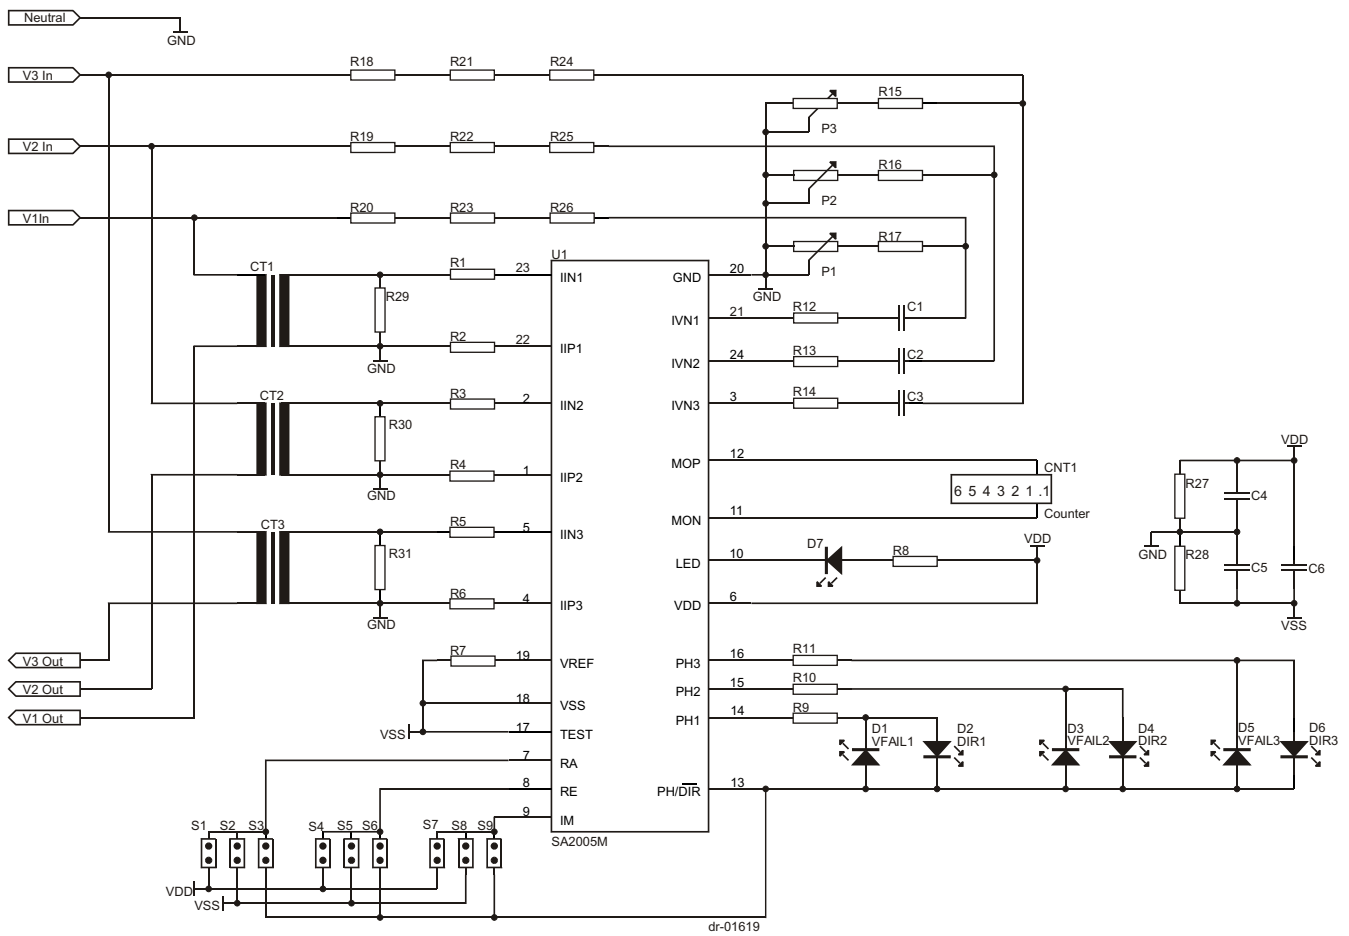

Figure 8: Typical application circuit
**SA2005M****Parts List for Application Circuit: Figure 8**